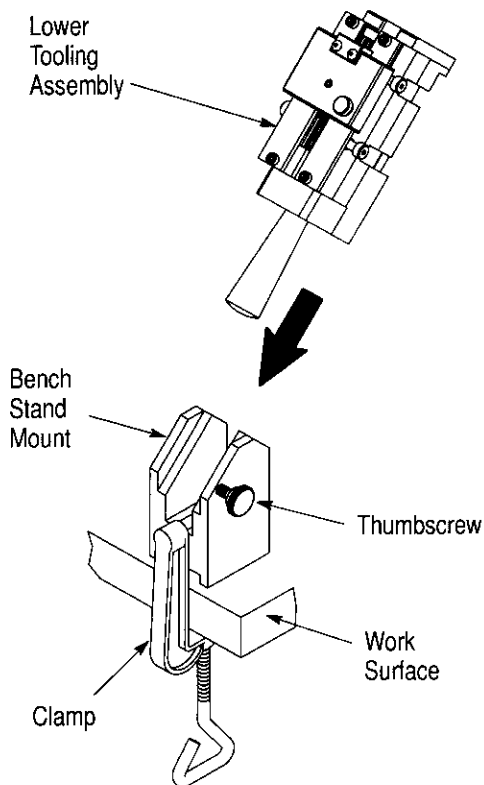

Figure 15
8. Attach the bench stand mount and clamp to a suitable work surface. See Figure 15.
9. Slide the lower tooling assembly into the bench stand mount, as shown in Figure 15, and tighten thumbscrew.